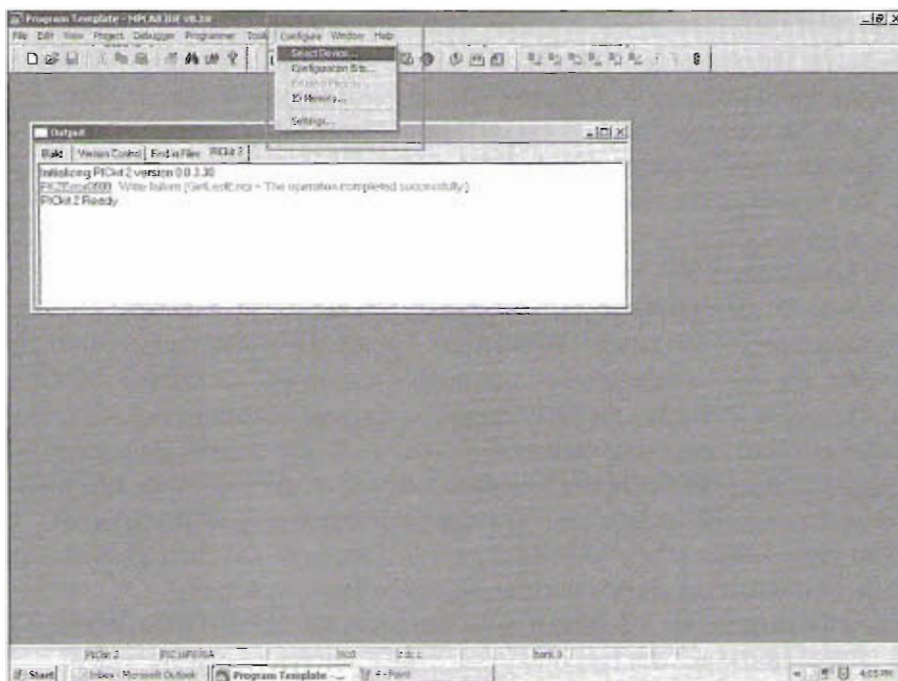
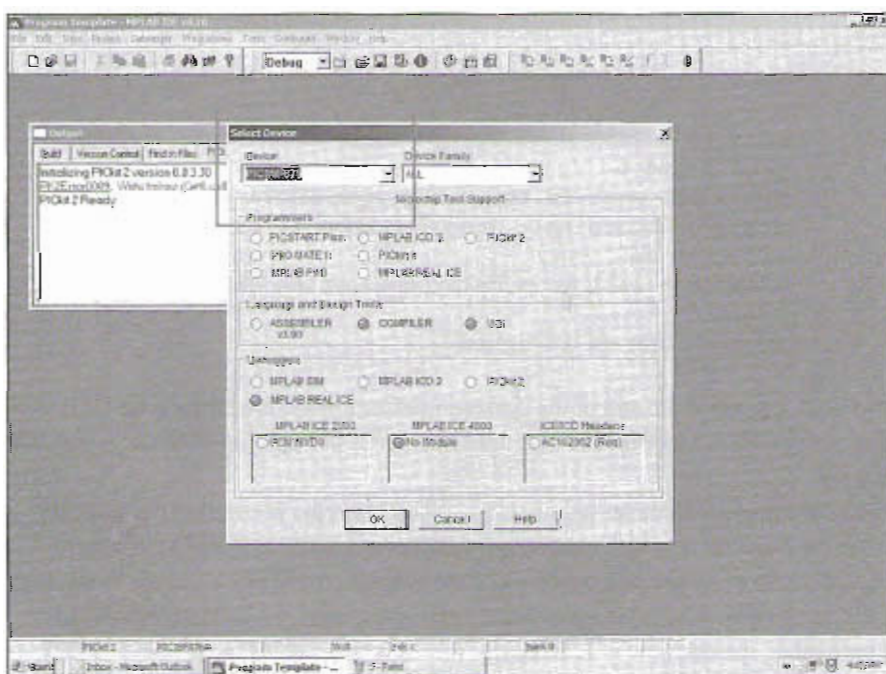

Figure 5-6 — Click on CONFIGURE/SELECT DEVICE.
Figure 5-7 — Listing of All the MCU Devices Supported by MPLAB IDE and the PICKit 2 Programmer. Highlight.
Step 5. Click on the menu bar: **CONFIGURE/SELECT DEVICE** (Figure 5-6) and a listing of all the MCU devices supported by *MPLAB IDE* and the *PICKit 2* programmer will be listed in the pull-down box. Scroll down the list until you find PIC16F676 and highlight that device (Figure 5-7). Click on OK.